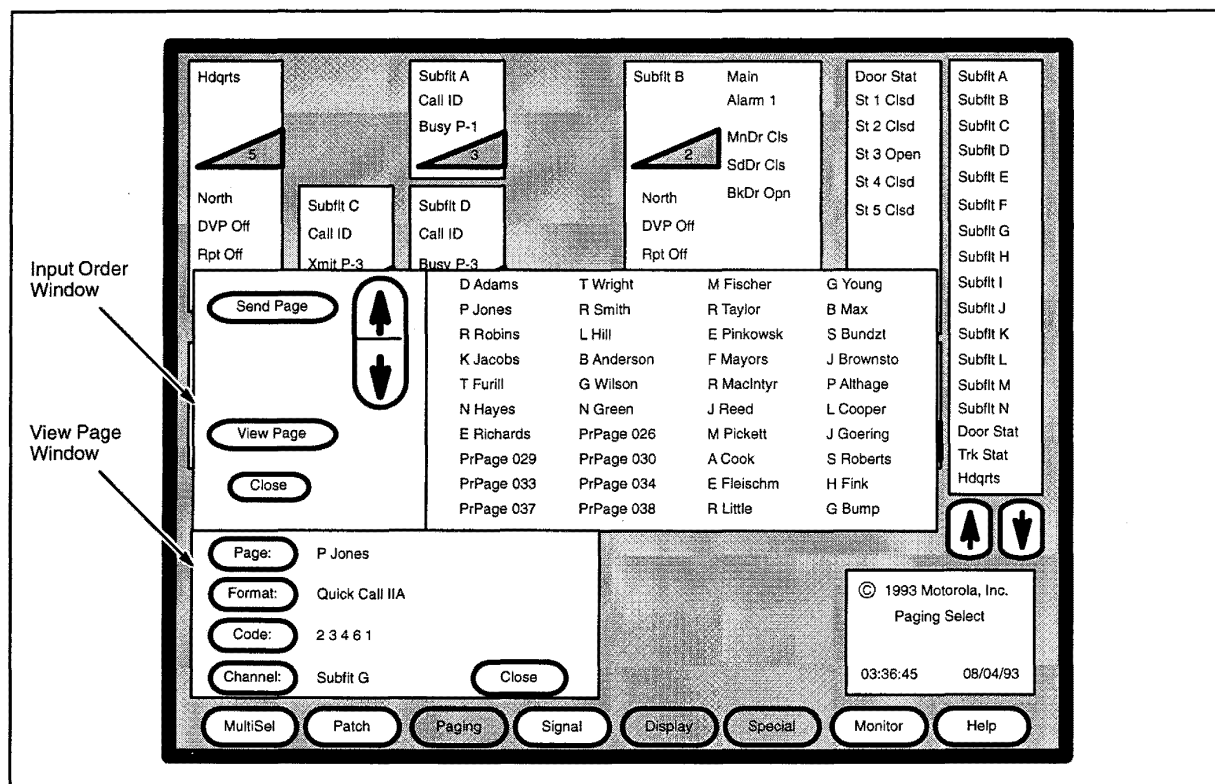

Figure 12. Input Order and View Page Window
Step 2. Choose the **View Page** command key. The View Page Window opens displaying the **Page ID**, paging **Format**, paging **Code**, paging **Channel**, and channel **Frequency**, if needed (see Figure 12).